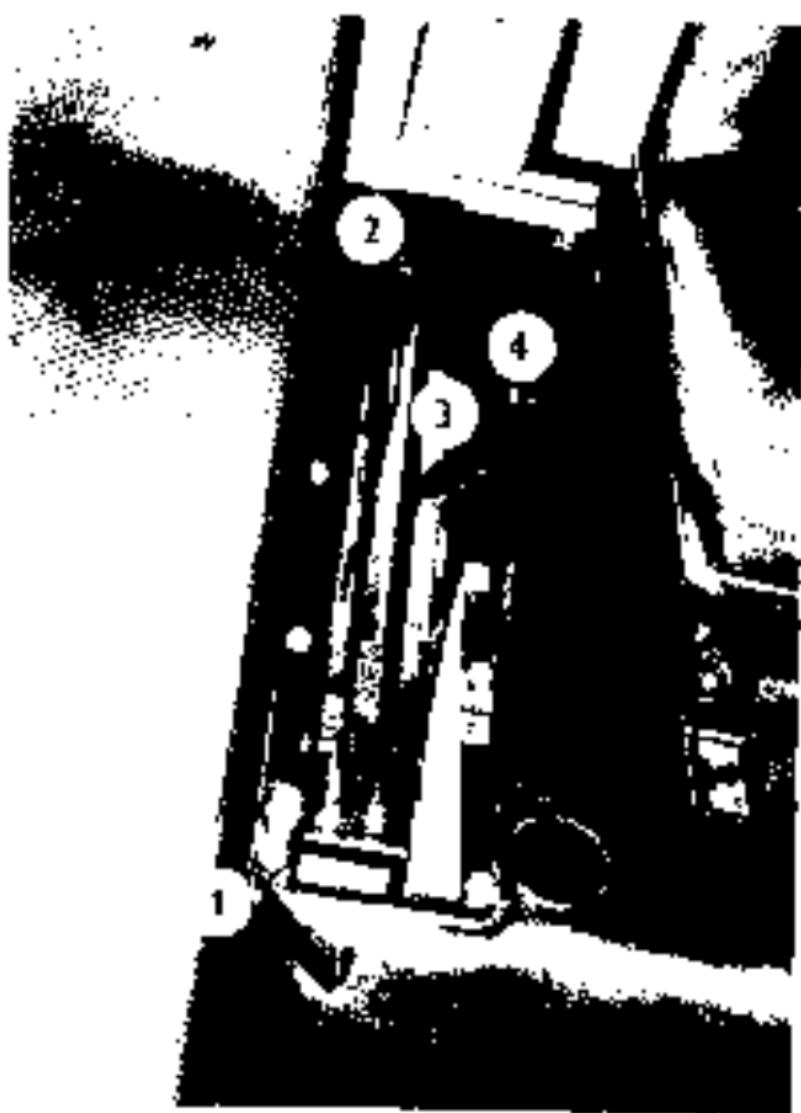

Fig. 20
- 7 Reaction rate lever (Fig. 20'1).
- 8 Hydraulic power lift outer circuit lever (Fig. 20'3).
- 9 Hydraulic power lift inner circuit lever (Fig. 20'2).
10. Hydraulic power lift system selector (Fig. 20/4).